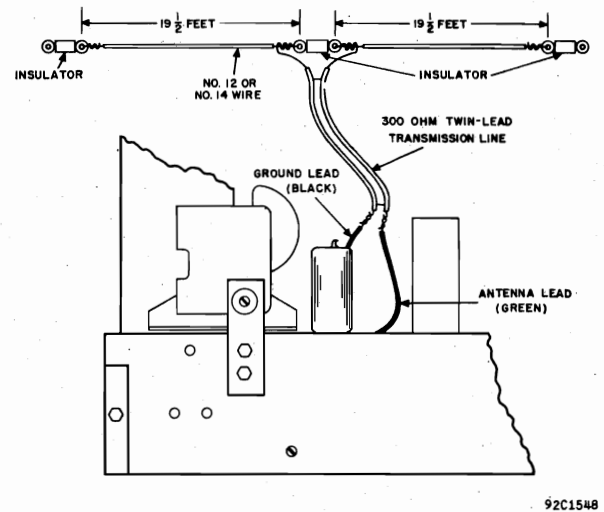

Fig. 2. Doublet Antenna Installation
1. Construct the antenna as shown in Fig. 2. Note that the antenna is  $19\frac{1}{2}$  feet long each side of center, the two sections being insulated from one another.